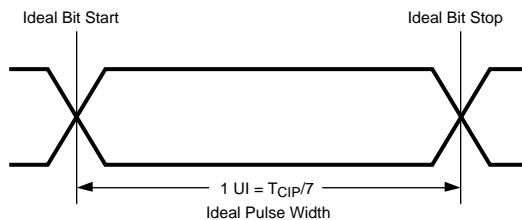

Figure 13. Serializer Ideal Pulse Width
(1) A Unit Interval (UI) is defined as 1/7th of an ideal clock period (TCIP/7). E.g. For an 11.76ns clock period (85MHz), 1 UI = 1.68ns (Figure 13)